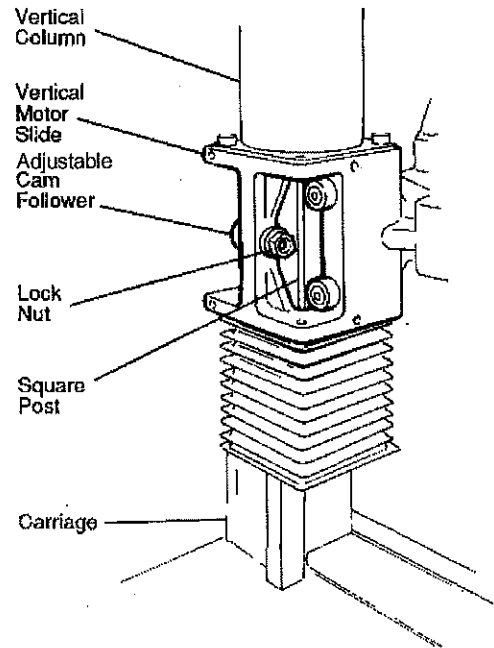

FIG. 30
1. Remove the two sheet-metal dust covers over the followers. The covers have been removed in FIG. 30.